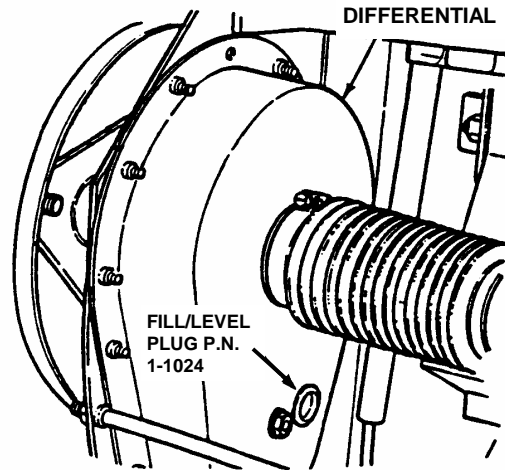

FIGURE 3.9
2. To check lubricant, remove fill/level plug and visually inspect for lubricant on the internal parts of the differential. If no lubricant is visible on the internal parts of the differential, add "SNAPPER Transmission" grease as needed. See Figure 3.9.